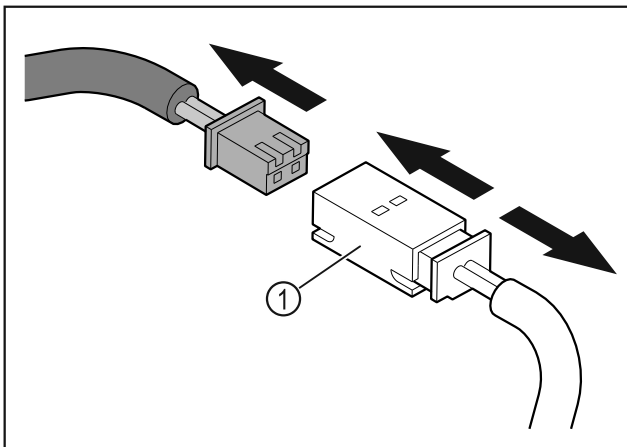

Fig. 13
- ▶ Disconnect the plug and the plug coupling Fig. 13 (1).